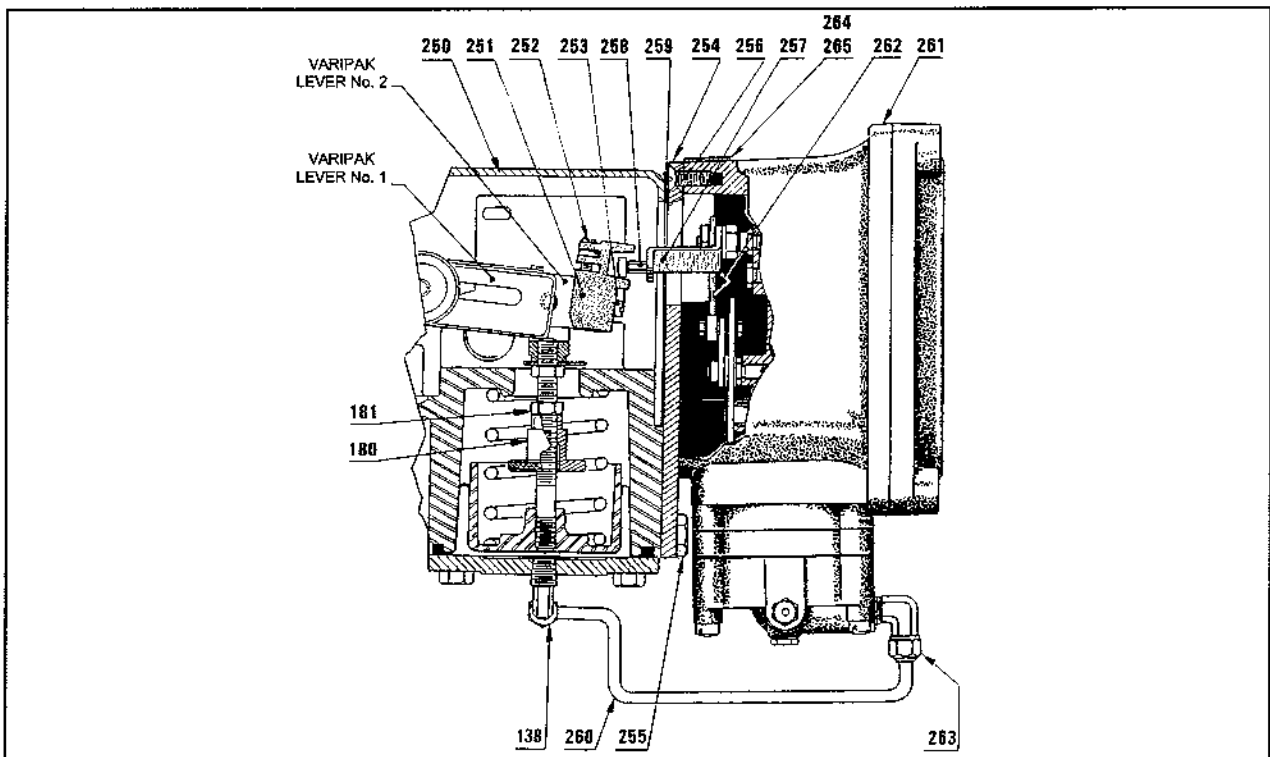

Figure C5 - Positioner mounted on the VariPak valve actuator
Fastening (see figure C5)
Note: When installing, insure that the bearing (258) is correctly positioned in the coupling (251) mounted on the end of the VariPak valve lever No. 2 (see figure C5).
2. Loosen screw (253) using a special 4 mm Allen wrench (length of a small leg: 10 mm) and turn coupling adjusting screw (252) so that the coupling (251) is adjusted in its lowest position on air-to-open valve or in its highest position on air-to-close valve (see figure C5).
4. Turn coupling adjustment screw (252) until the comparator pointer indicates the midstroke position of the plug stem. Tighten set screw (253) (see figure C5).